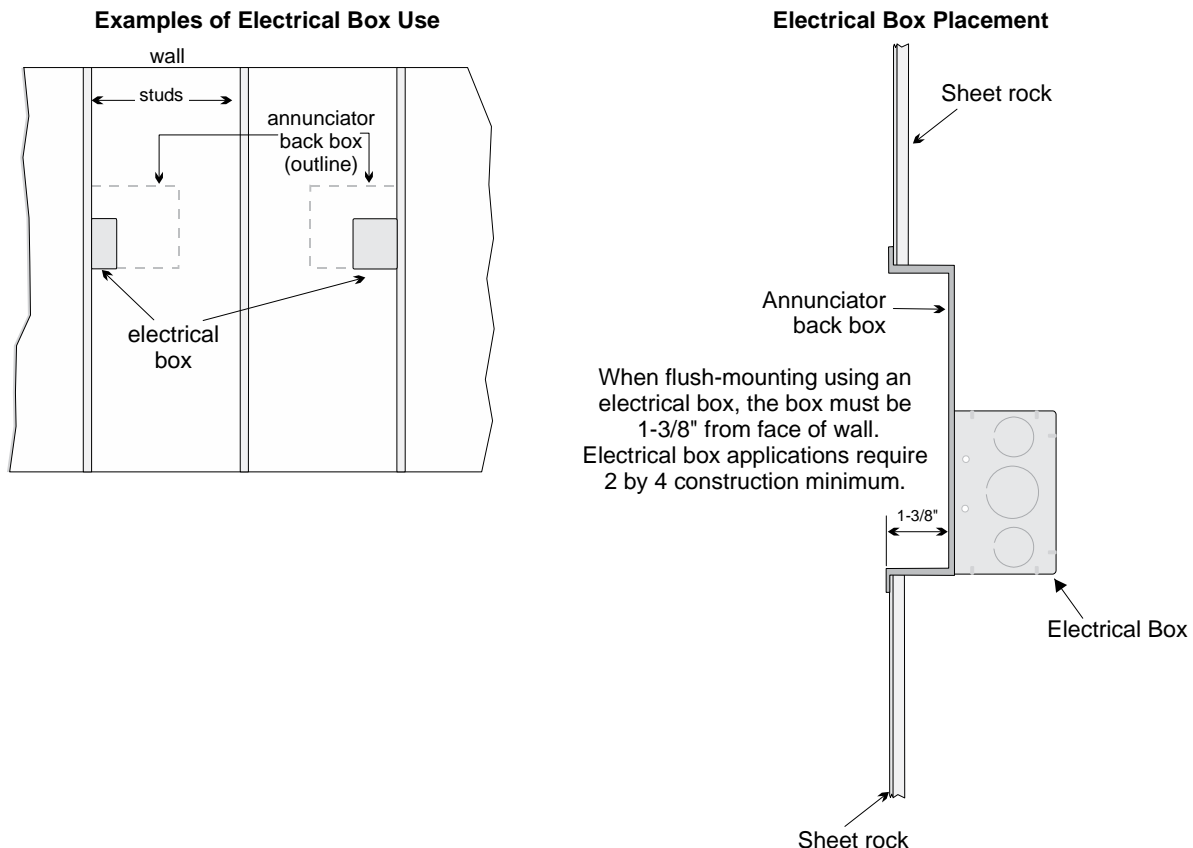

Figure 4-12 Placement of Electrical Box for Flush Mounting
1. Cut a hole in the sheet rock to the following dimensions: 8 1/4" W x 6-5/8" H. If an electrical box is used, the box must be 1-3/8" back from face of wall to accommodate the annunciator (see Figure 4-12).